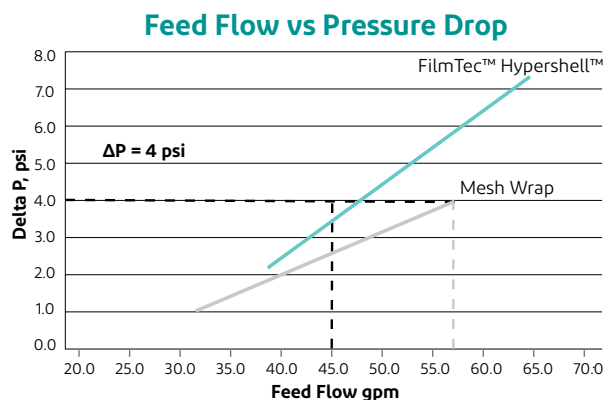

Figure 1: Feed Flow vs Pressure Drop for Mesh Wrap and FilmTec™ Hypershell™ Elements.
- A machined polypropylene rigid outer-shell, FilmTec™ Hypershell™ elements do not deform, minimize channeling and reduced bypass compared to mesh wrapped elements (see figure 1).